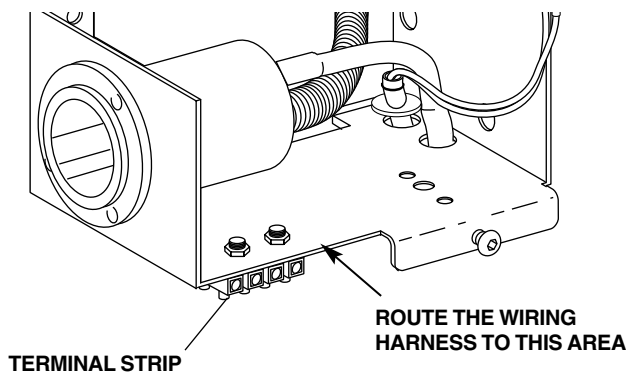

FIGURE 6
- Route the wiring harness into the mounting bracket assembly to the position shown in Figure 6.